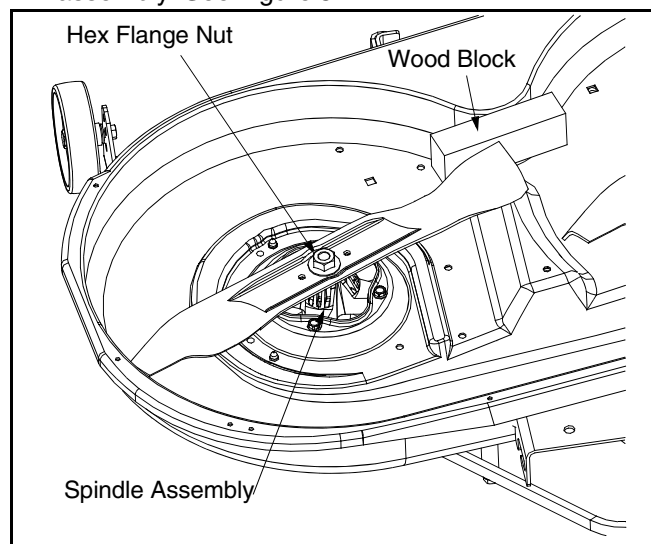

Figure 5
- Place a block of wood between the center deck housing baffle and the cutting blade to act as a stabilizer. See Figure 5.
- Use a 1-1/8" wrench to remove the hex flange nut that secures the blade to the outer blade spindle assembly. See Figure 5.